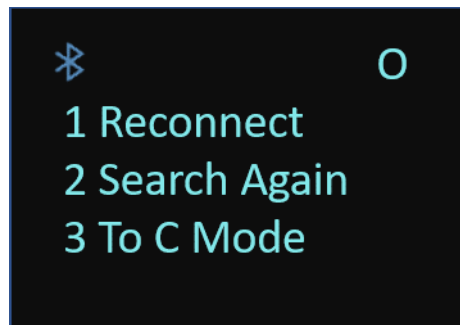
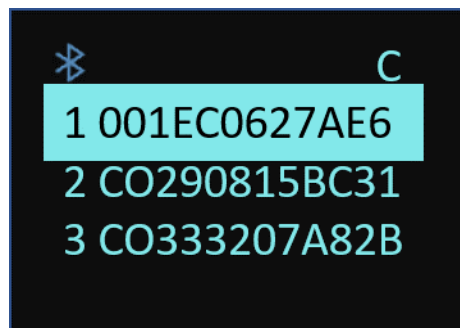

Figure 4. Options after failing to connect to the previously connected device
Figure 5. The Mac address list of the discovered devices
If the connection failed, the menu shown in figure 4 will be displayed. Press **Reconnect** to connect to the previously connected device again. Press **Search Again** to search again any Pyxis sensors or probes that are running in the beacon mode. Press **To C Mode** to switch the BTA-100 to the central mode.
Select **To C Mode** after O mode being failed as shown in figure 4 or press the Bluetooth mode button . The BTA-100 will search any pyxis devices or probes that are running in the peripheral mode. The C icon is displayed in the upper-right corner to indicate the central mode being activated. The Mac address list of discovered and connectable devices will be displayed on screen as shown in figure 5.
- The BTA-100 will search Pyxis Bluetooth devices that are in the peripheral mode and display the Mac addresses of the discovered devices (figure 5).